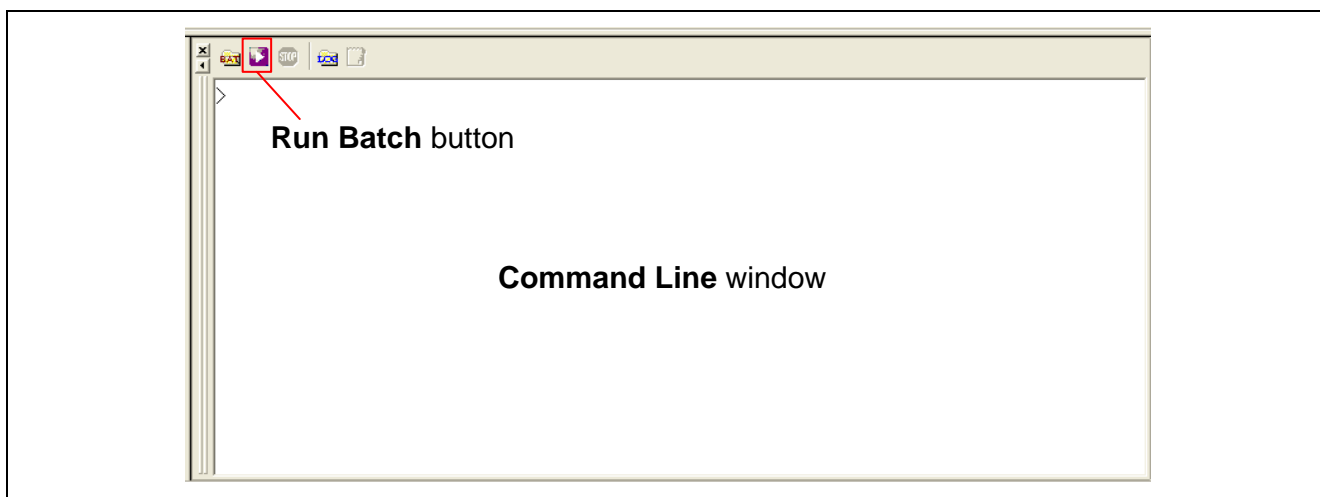

Figure 18 Command Line Window and Run Batch Button
5. After the connection establishment, select the **Command Line** on the **View** menu in High-performance Embedded Workshop to open the **Command Line** window as shown in Figure 18.